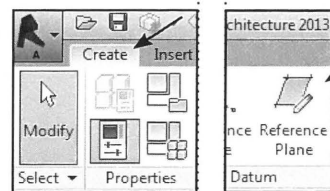

Fig. 08.17. Reference Plane.
- Klik igen *Create - Reference Planes* (Fig. 08.17).